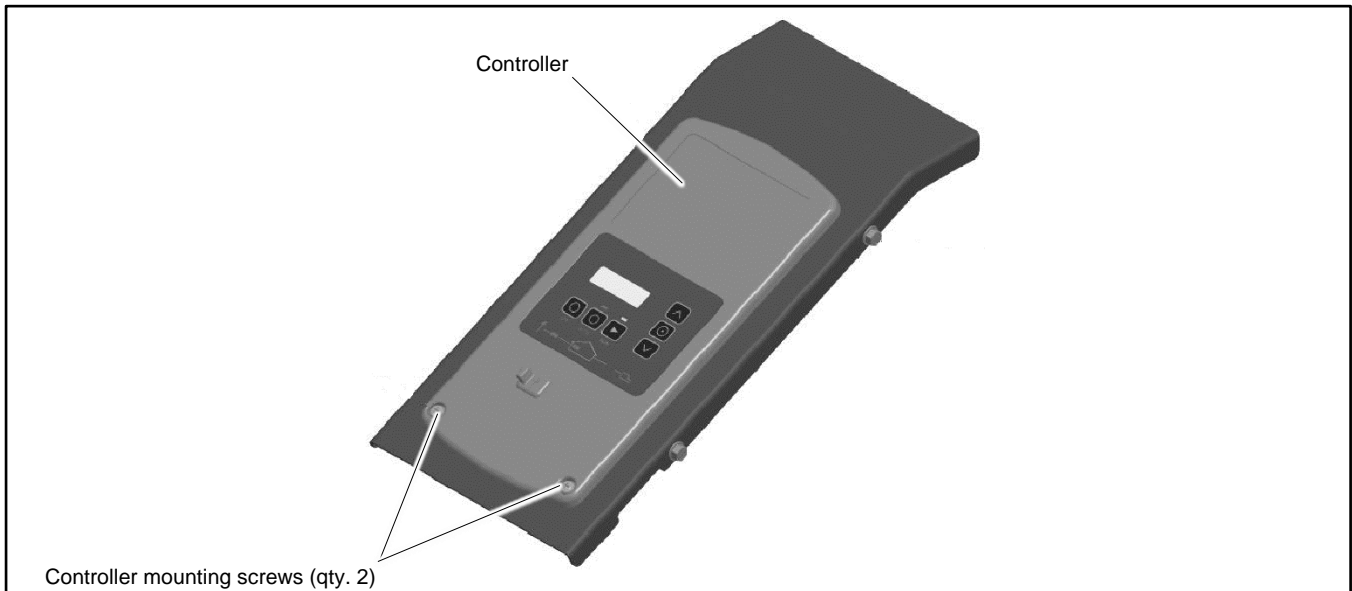

Figure 37 Controller Mounting
5. Remove the two (2) screws securing the controller to the junction box and *carefully* lift the bottom edge of the controller. See Figure 37.